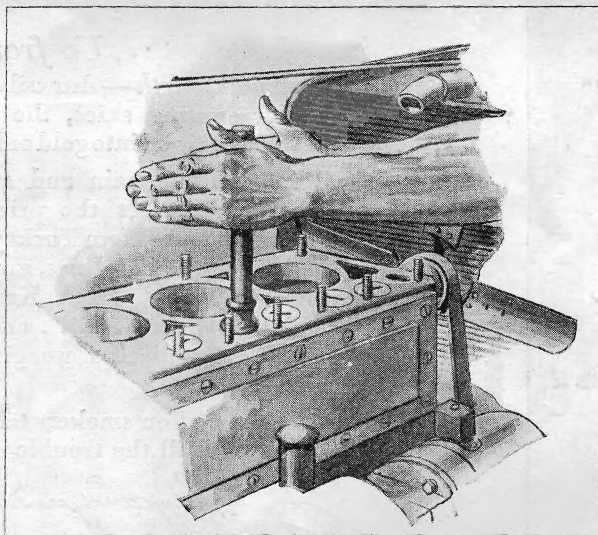

Fig. 3. Cut off a plumber's force cup to fit the valve head and you have a simple grinding device.
**A**N ORDINARY plumber's force cup, such as is used for clearing clogged drain pipes, can be fashioned into a useful valve-grinding tool. The lower part of the rubber cup is cut off so that the diameter of the remaining portion is smaller than the diameter of the head of the valve. Pressing the cup tightly against the valve will cause the rubber to adhere so the valve can be rotated and lifted from time to time, as shown in Fig. 3.
R. L. Ogden, of Edgewater, Colo., wins this month's \$10 prize for his suggestion of a valve-grinding tool, as shown in Fig. 3. Each month POPULAR SCIENCE MONTHLY awards \$10, in addition to regular space rates, for the best idea sent in for motorists. Other contributions used are paid for at the usual rates.